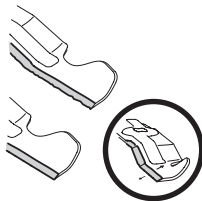

Figure 41
4. To properly sharpen the cutting blades, remove equal amounts of metal from both ends of the blades along the cutting edges, parallel to the trailing edge, at a 25° to 30° angle. Always grind each cutting blade edge equally to maintain proper blade balance (Figure 41).